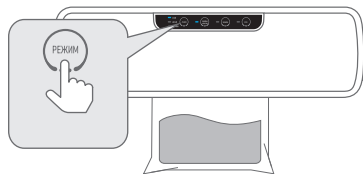

Fig. 3
5. Select the desired mode using the mode button (1): dry, mild, wet (Fig. 3).
6. Press the «ЗАПАЙКА» button (3) if you only need to seal the bag. Otherwise press the «ЗАПАЙКА+ВАКУУМ» (AUTO) button (2) if you wish to pump the air from the bag and then seal it. The appliance will start operating. When the operating cycle is over the operating noise will stop and the mode indicator will go out. Press the latch buttons (8) and open the top cover.
7. If you wish you can make a second sealing seam as a precaution in case the first seam has not sealed the bag completely. To do so repeat the steps above, only without inserting the bag into the retainers (12); move it lower so that the edge of the bag is placed on the thermal tape and the first seam is visible on the outside. This method is desirable for 30 cm wide bags.